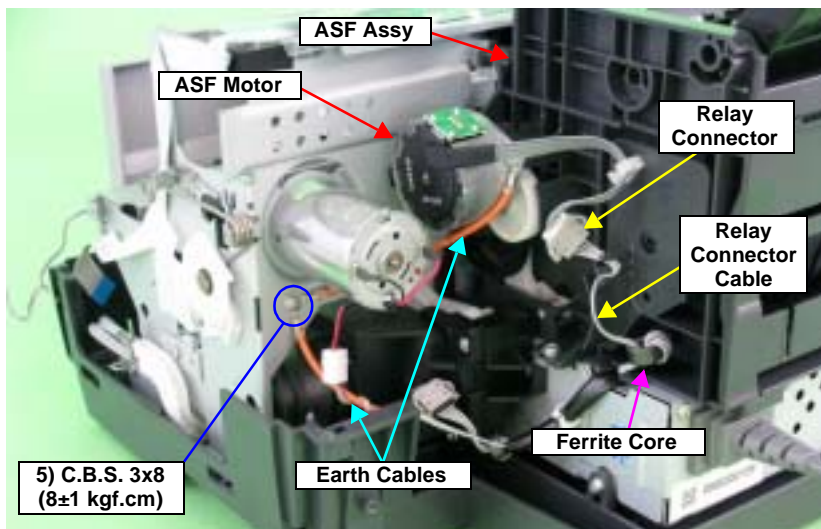

Figure 4-20. Releasing the Cables (1)
- Referring to Figure 4-20., correctly route the Relay Connector Cable.